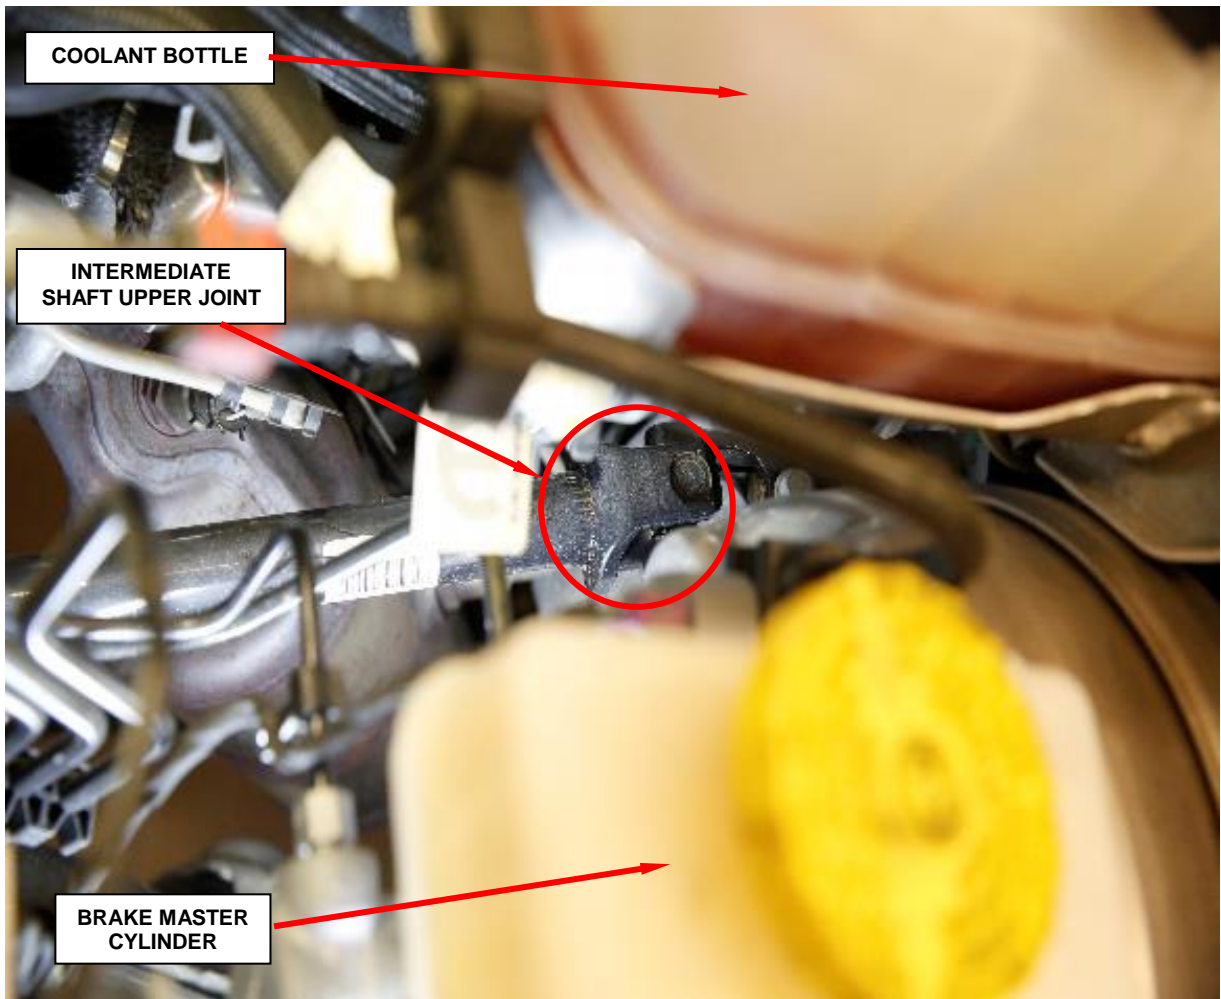

Figure 1 – Intermediate Shaft Location (3.6L shown)
1. Locate the intermediate shaft upper joint, intermediate shaft to steering column (Figure 1).
NOTE: The intermediate shaft upper joint is located in the under hood compartment right below the coolant bottle (Figure 1).